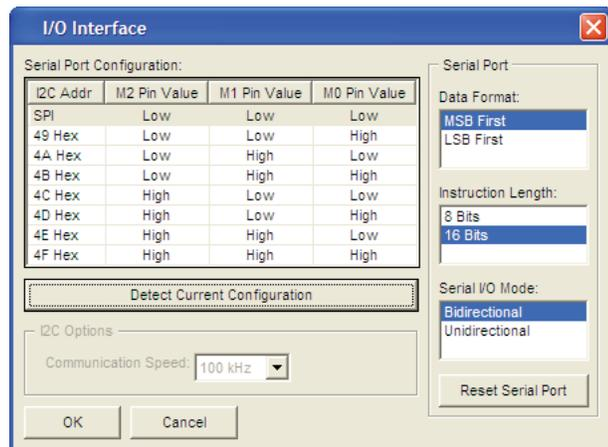

Figure 31. Serial Port Configuration
- Repeat Step 4 for both the SERIALCLK and ground pins on Header P6 of the AD9548 evaluation board to the SCL pin and ground pin of the target board, respectively. On the evaluation software, select **Configure Serial Port** from the **I/O** menu. This window is shown in Figure 31.